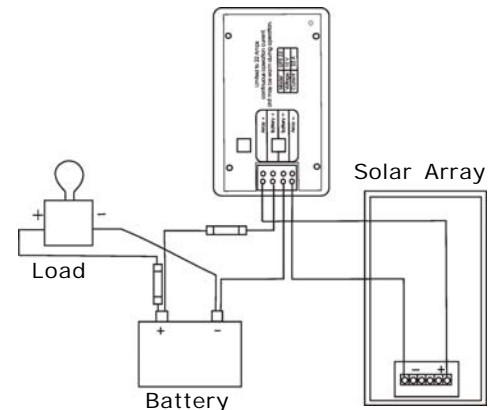
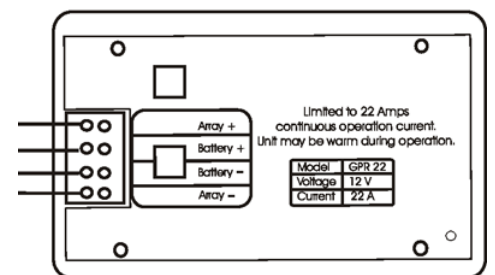

Figure 4 GPR-22 regulator wiring schematic
Figure 5 GPR-22 regulator wiring connection detail
3. Wire the regulator according to the wiring schematic shown in **Figure 4** and **Figure 5**. Tighten all connections.